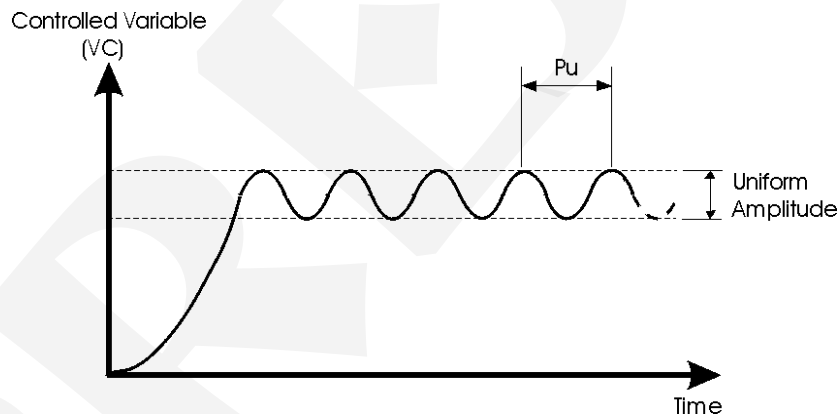

Fig. 27 - Steady state oscillation
- iii) Adjust the gain value (PROP), also called sensitivity, until reaching a limit value in which the controlled variable will show a uniform oscillation, i.e., with constant amplitudes (see figure 27). Values above that limit produce amplifying oscillations, whereas gain values below that limit will dampen those oscillations. By ultimate sensitivity ( $K_u$ ) it is meant that limit gain and by ultimate period ( $P_u$ ) it is meant the period of constant oscillation caused by this sensitivity.